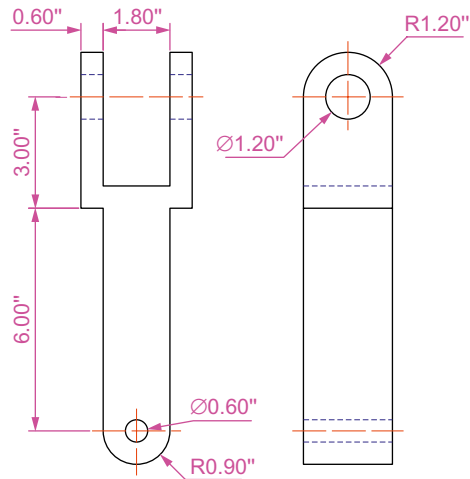
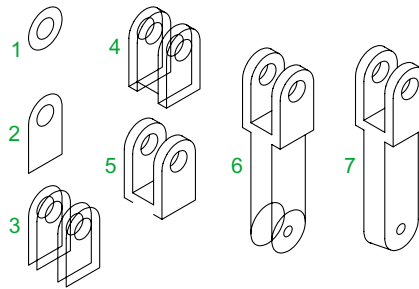
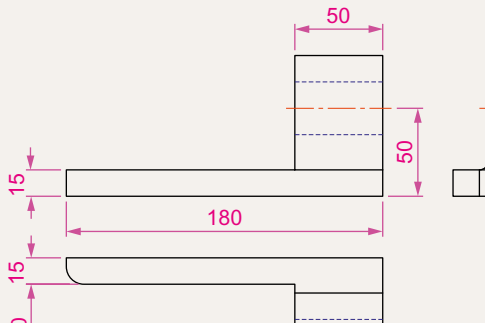

Fig. 7.23 Second example – isometric drawing – orthographic projection
Fig. 7.24 Second example – isometric drawing – stages in the construction
Fig. 7.26 Exercise 1
Second example – isometric drawing (Fig. 7.24)
Fig. 7.23 is an orthographic projection of the model of which the isometric drawing is to be constructed. Fig. 7.24 shows the stages in its construction. The numbers refer to the items in the list below:
1. Fig. 7.26 is a first angle orthographic projection of part of the fitment shown in the isometric drawing Fig. 7.23. Construct a three-view third angle orthographic projection of the part.